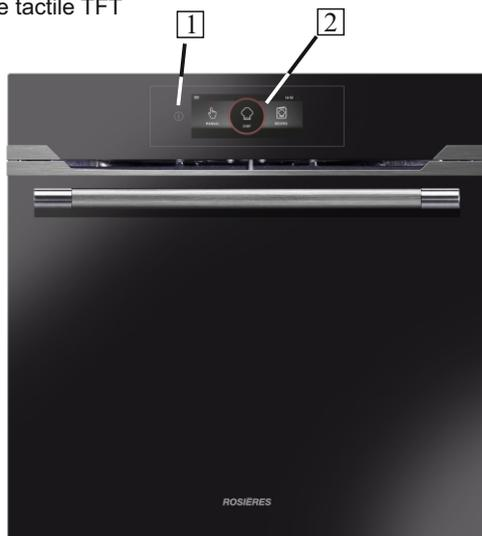

Figure 1
2. Interface tactile TFT (Figure 1)